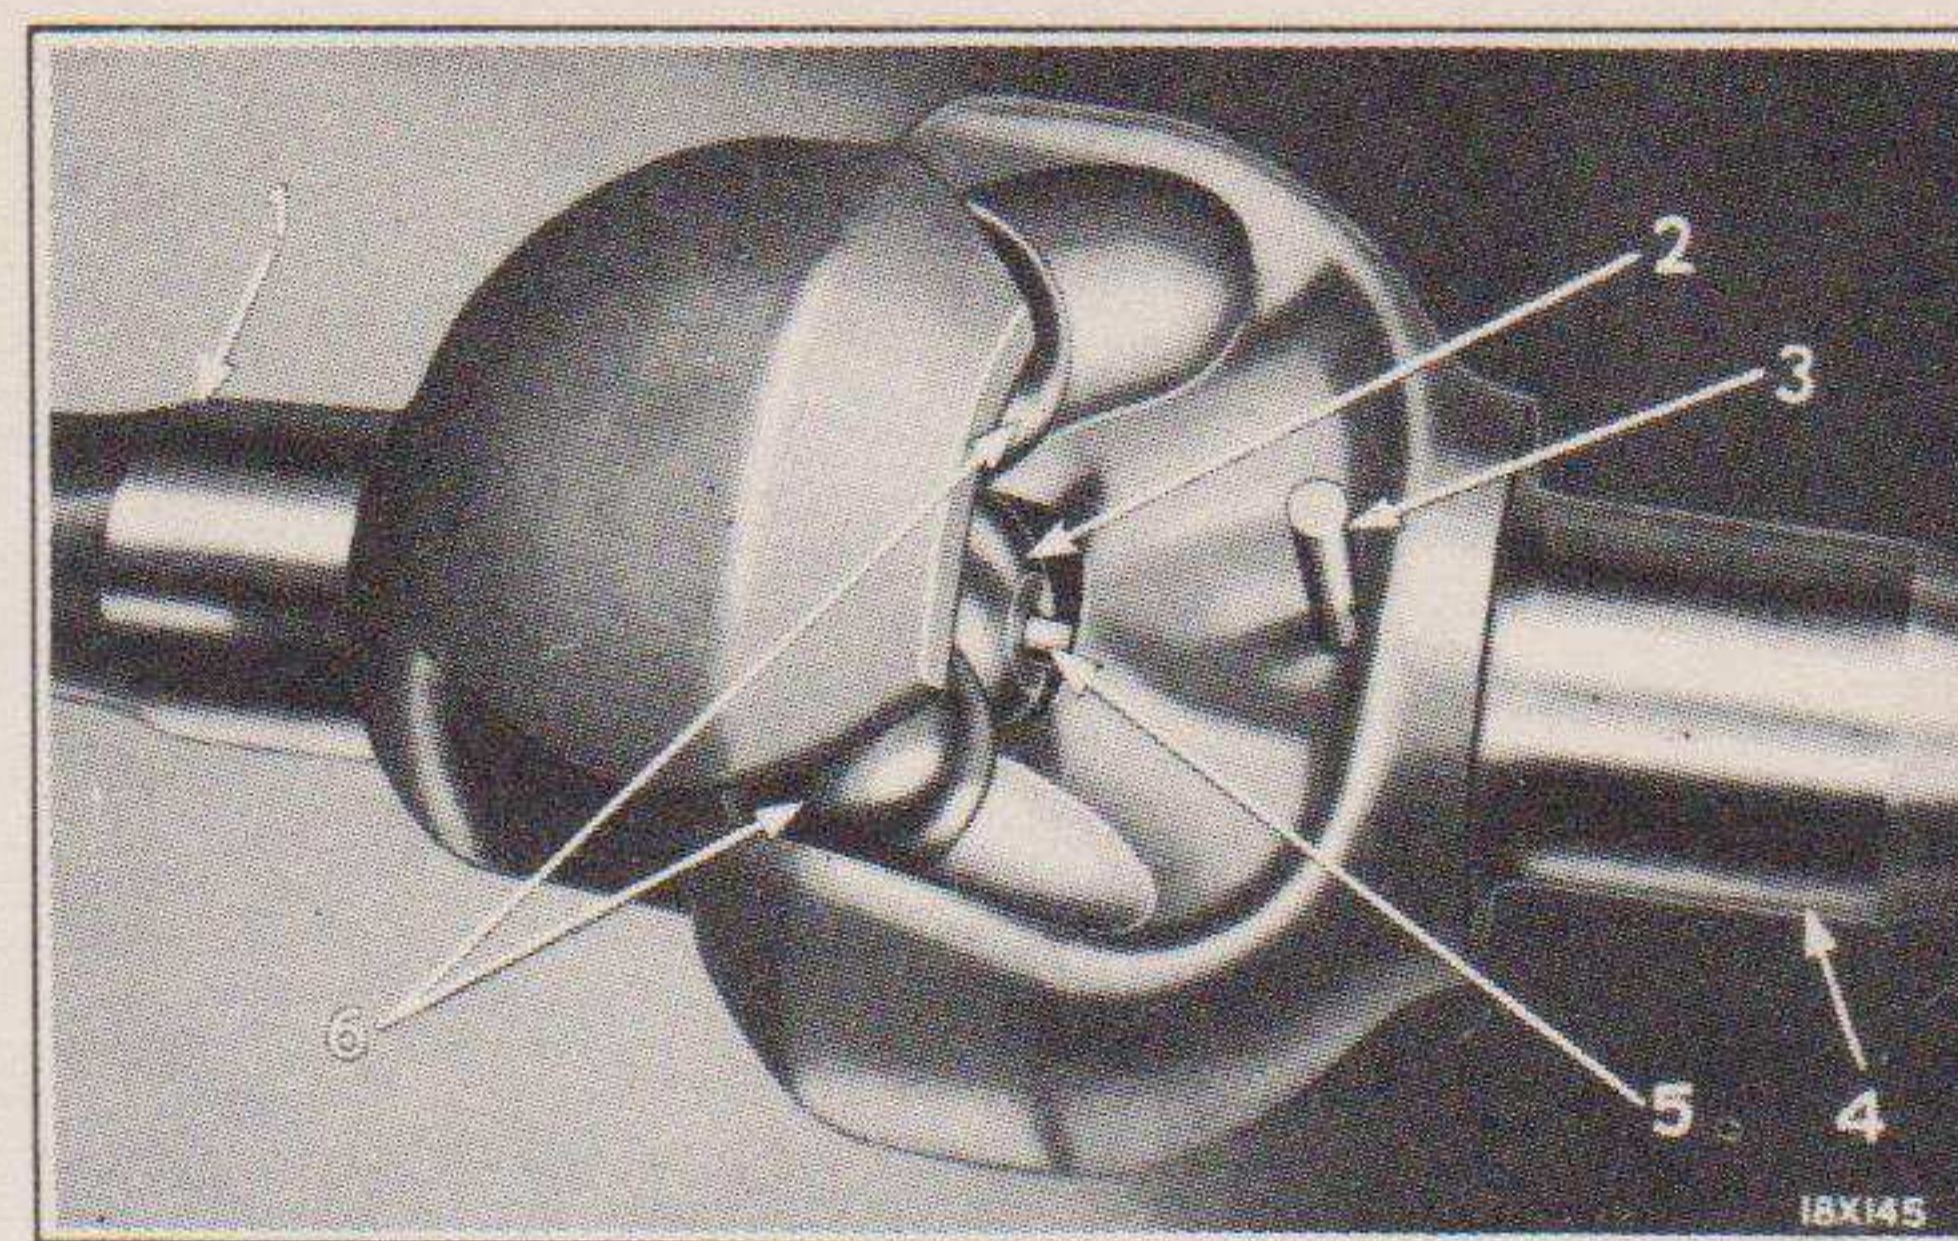

Fig. 20—Installing Universal Drive Center Ball Pin Retainer Pin (Bendix-Weiss)
- (c) Clamp the short shaft in a vise (use protectors on the vise jaws) with the universal joint section at the top and thoroughly clean the center ball pin hole in the inner end of the short shaft to allow the pin to move freely in the hole. Then install the pin 5, Fig. 20.
- (h) Install a *new* retainer pin in the joint end of the short shaft. See Fig. 20. Then remove the assembly from the vise and center punch both ends of the retainer pin to hold it in position.